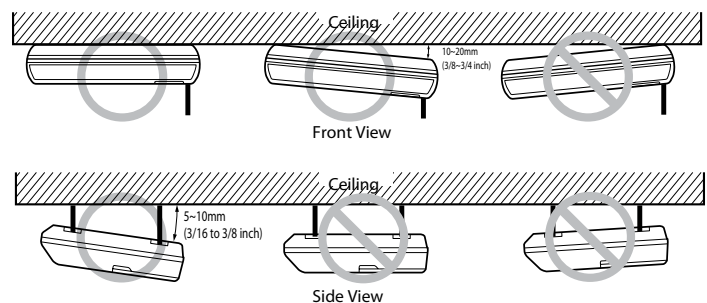

Figure 8: Positioning the Ceiling Mounted Unit
7. Before final tightening of the nuts, determine at what angle the unit will be positioned. Refer to Figure 8 for examples of correct and incorrect positioning. The unit must be positioned so that condensation will flow from the unit through the drain pipe.